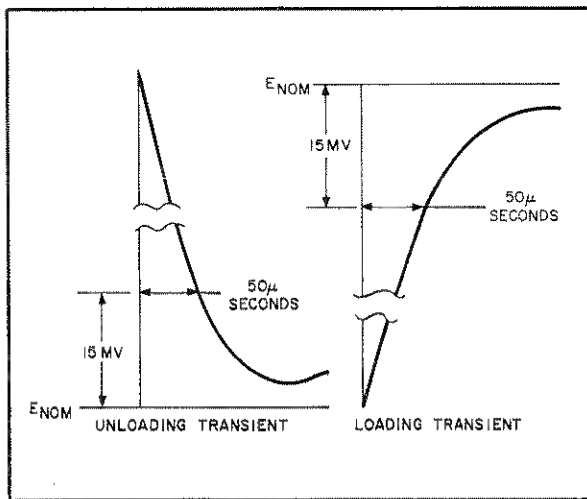

Figure 5-5. Transient Recovery Time Waveforms
- i. Starting from the major graticule division representative of time zero, count to the right $50\mu\text{sec}$ and vertically 15mV . Recovery should be within these tolerances; as illustrated in Figure 5-5.